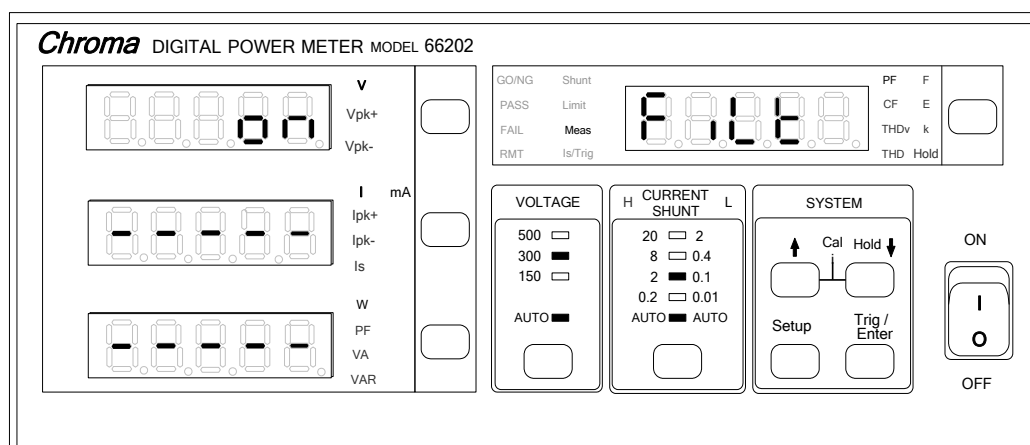

Figure 4-34 Setting Filter
1. Press **Setup** to select Meas and the indicator of Meas is on. Figure 4-34 shows the setting of Filter.